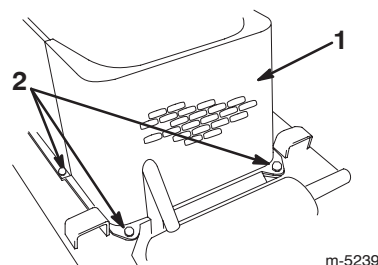

Figure 20
5. Remove the 4 bolts securing the front screen to the traction unit frame and remove the front screen (Fig. 20).